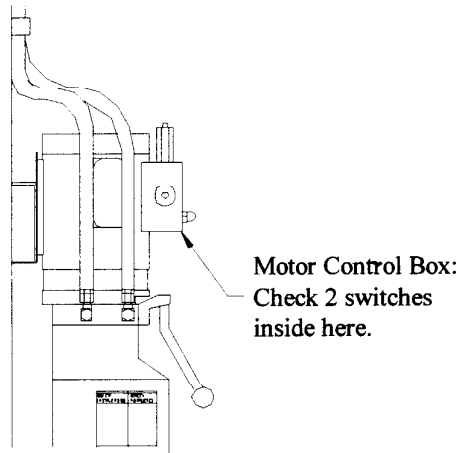

FIGURE 8
- ◆ Check micro-switch in motor control box. Figure 8.